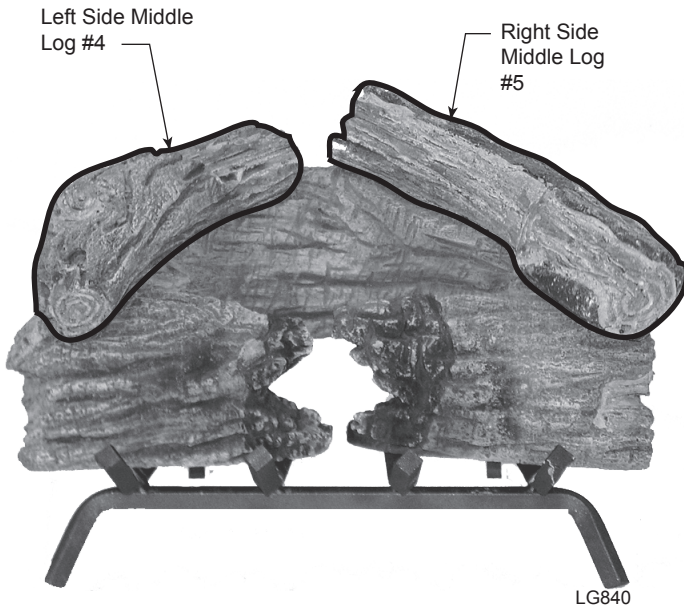

Figure 20 - Place Right and Left Side Middle Logs
- 5. Place left side middle log #4 as shown. *Figure 20*
- 6. Place right side middle log (#5). *Figure 20*